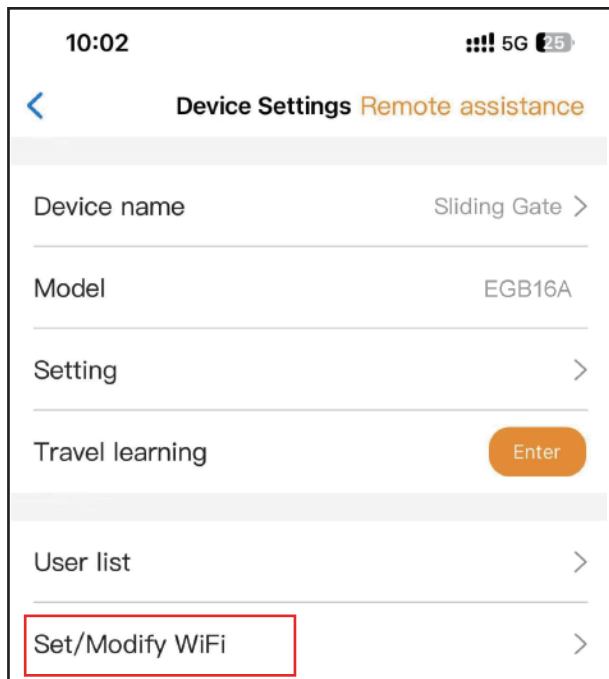

Fig 7
Step 1. Select the device, press the “⚙️” on the top right corner. Click the “ Set/Modify WiFi ”. (Fig 7)